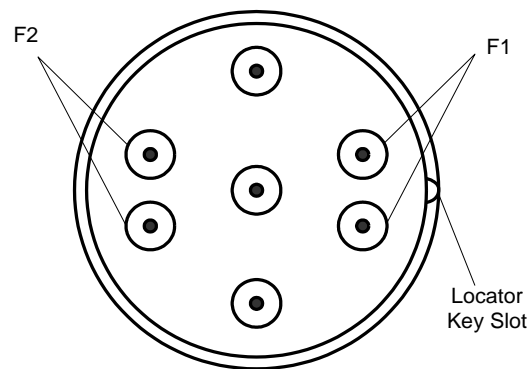

Figure 11-6 Filament Pin Locator for LPN and Mini BA Hot Cathodes
F1 and F2 are identified on the Low Power Nude sensor (HC). For a Mini BA, use the drawing in Figure 11-6 to locate F1 and F2.